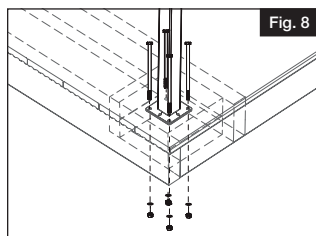

Fig. 8
- e. Push bolts through post plate. (Fig. 8). Posts can be leveled as needed by using shims.